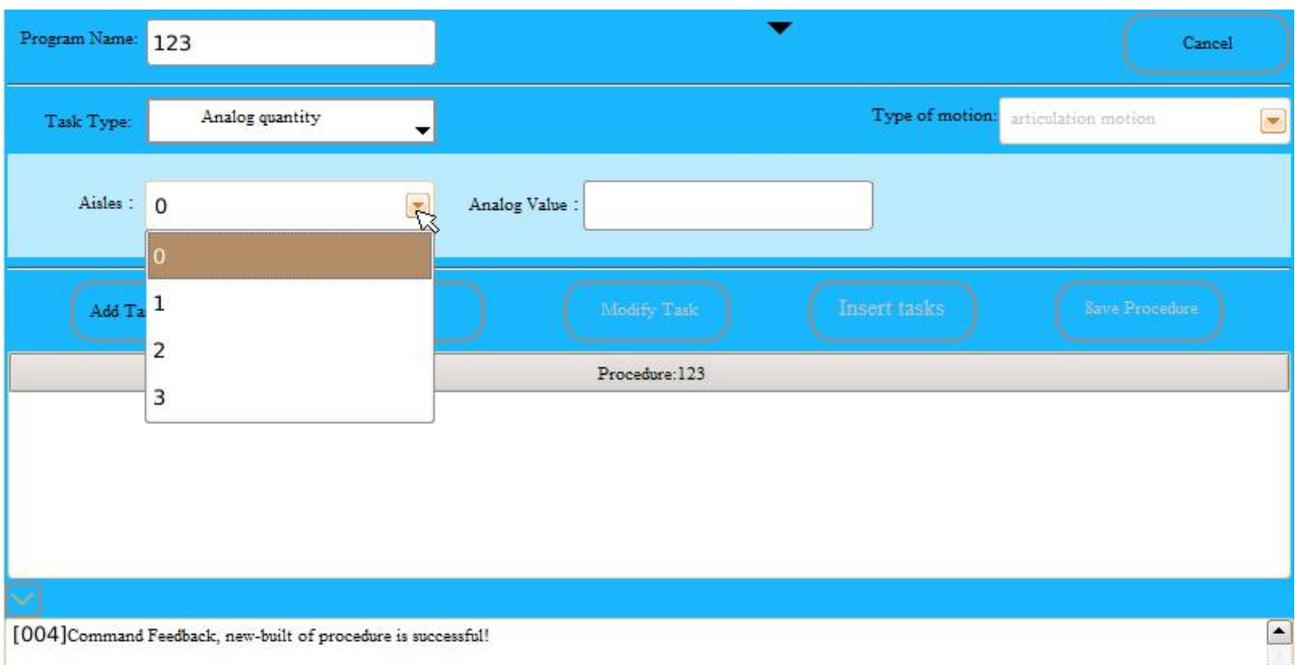

Fig. 4.5 “Analogue Quantity” Task Types
(2) “Analogue quantity” task type — The system provides 4 analogue quantity output aisles which are “0”, “1”, “2” and “3” respectively. The value range of “Analogue value” is 0-12V, as shown in Fig. 4.5.